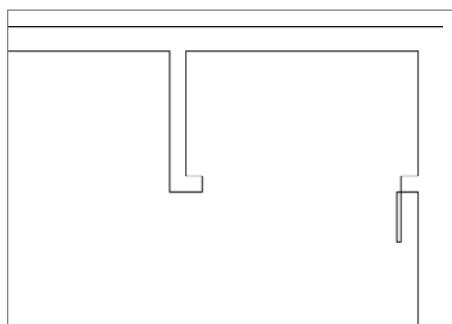

FIGURE 4.75 The first closet door panel is drawn.
6. Enter $-1,-12\downarrow (-25,-305\downarrow)$ to create a rectangle 1" (25 mm) wide and 12" (305 mm) long oriented toward the bottom of the cabin, as shown in Figure 4.75.